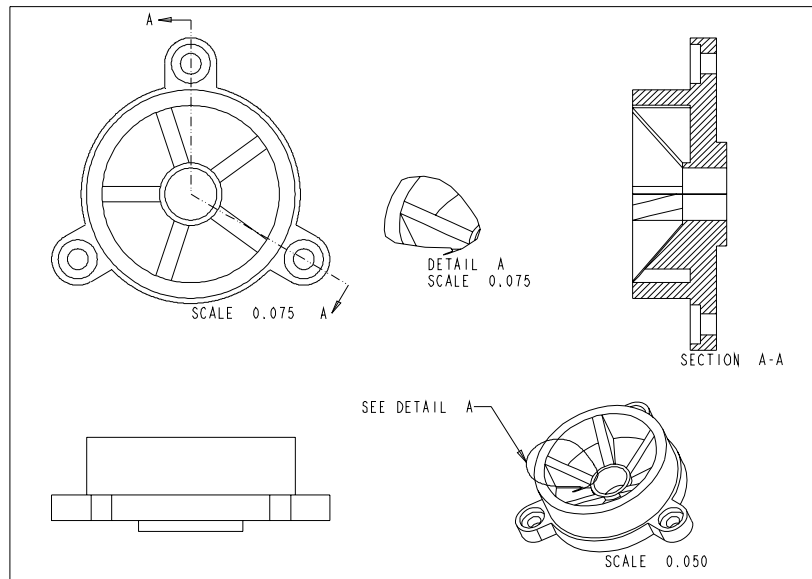

Figure 12-48 The drawing views for Tutorial 1
- Generate the detail view from the 3D view, see Figure 12-48.
A note is also displayed with an arrow attached to the trimetric view. You may need to move the note to a suitable position by selecting it and then dragging the cursor. The final sheet after generating all views is shown in Figure 12-48.